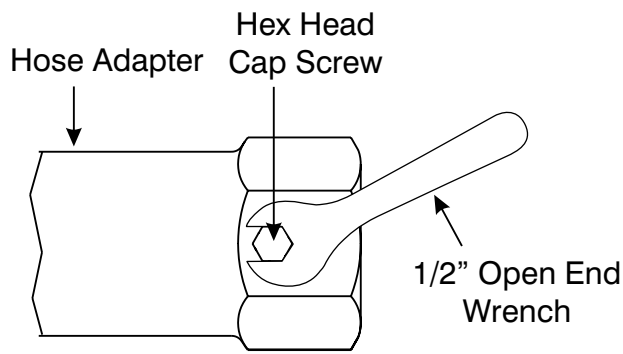

Figure 8-16. Loosen Hex Head Cap Screw.
- a. With a 1/2-inch open end wrench loosen but do not remove the Hex Head Cap Screw (16) in the Hose Adapter (15). See Figure 8-16.